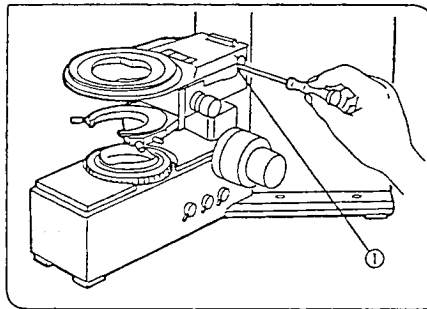

Fig. 44
### 4 Stage Height Adjustment (Fig. 44, 45)
2. Using the Allen screwdriver, loosen the substage bracket clamping screw ① and remove the substage. (Fig. 44)